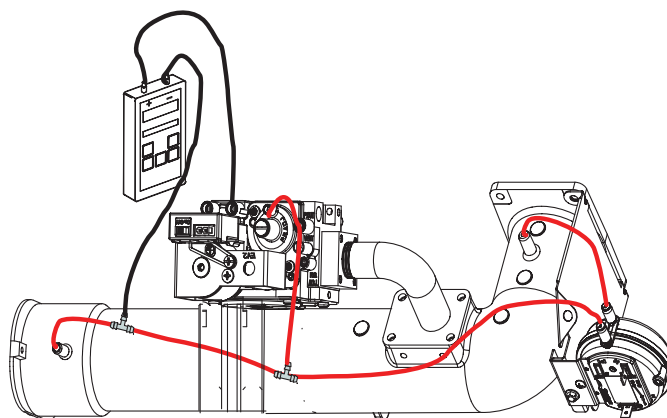
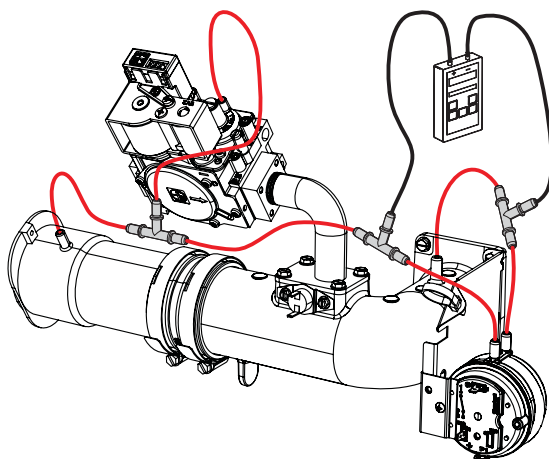

Figure 20. Gas Manifold Pressure Measurement
Figure 21. System Operating Pressure Measurement
3. Install hoses and meter as shown in **Figure 20** and **Figure 21** for system operating pressure measurement. The system operating pressure is monitored by the pressure switch and is the pressure drop across the air orifice.